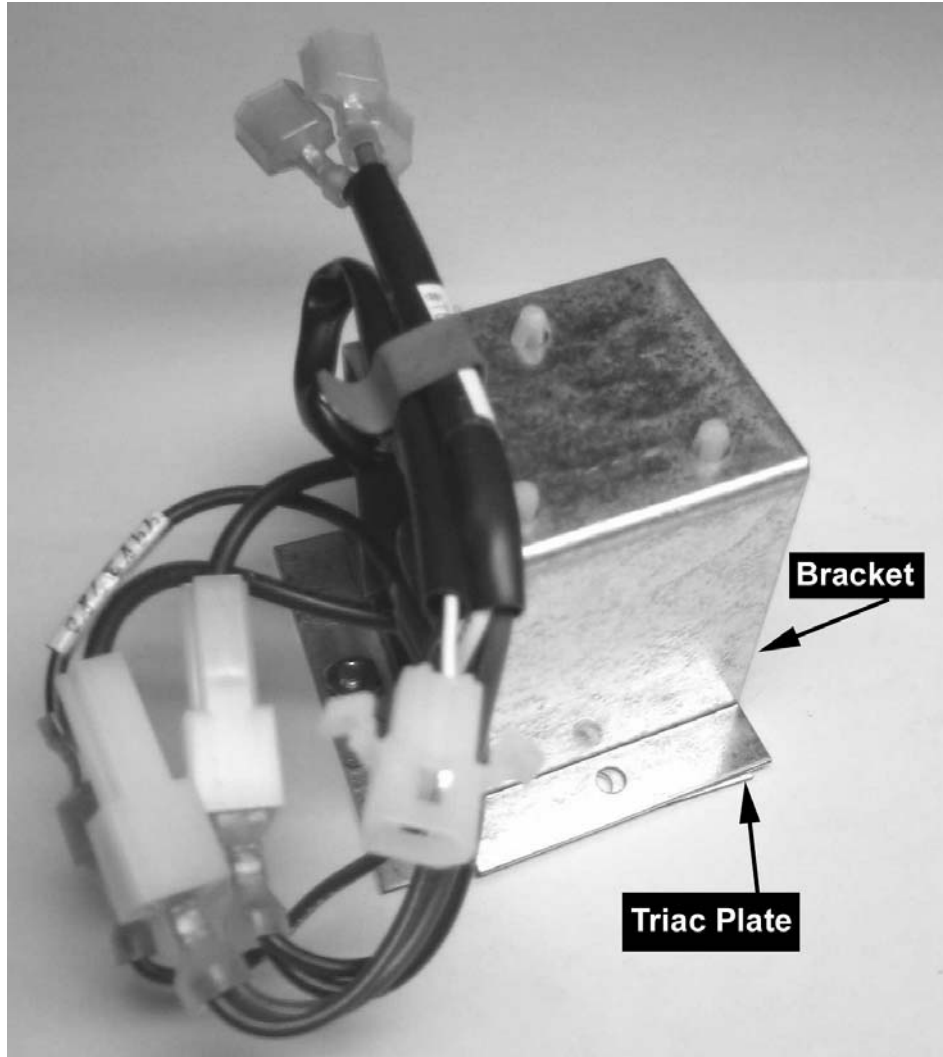

Figure 3
8. Position the Triac and Bracket Assembly over the 70 Amp triac plate so the holes in the bracket and plate align as shown in Figure 3.